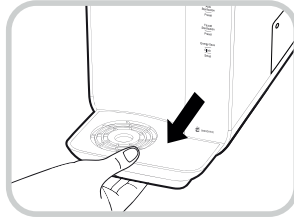

Fig. 1
- Pull the Tray slowly with both hands otherwise water may pour out. (Fig. 1).